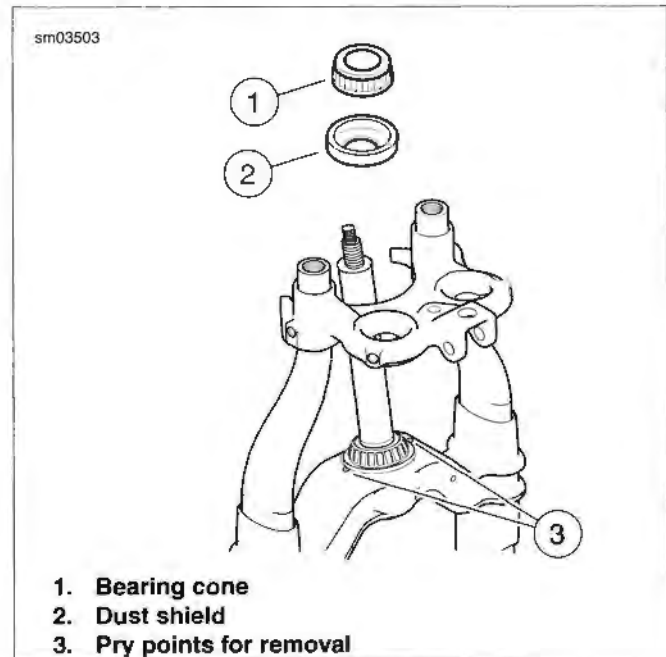

Figure 2-77. Fork Stem Bearings
1. See Figure 2-77. Remove bearing (1) and dust shield (2) from fork stem.